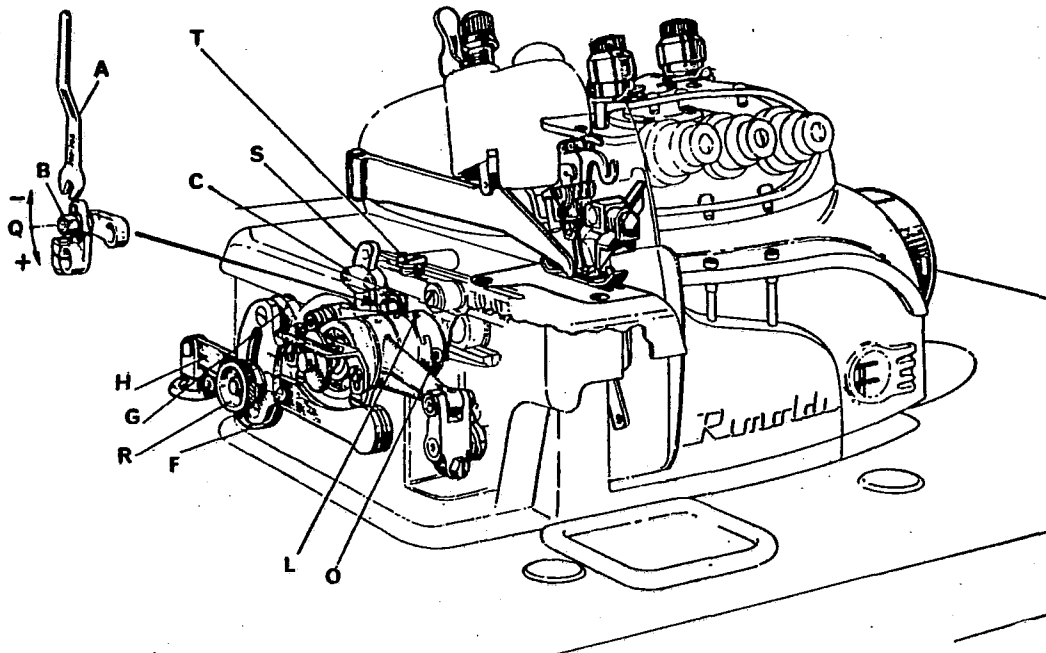

fig. 16
10-Adjustment of differential or front feed (fig. 16)
e) Stitch length adjustment (fig. 16)